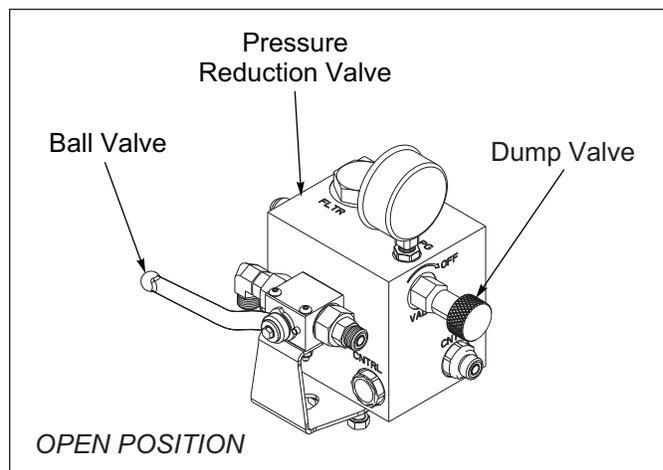

Figure 4-5: Pressure Reduction Valve Manifold
The Ball Valve between the Pressure Reduction Valve Manifold and the machine system needs to be turned "OFF" during field operation (handle upright). The Ball Valve should only be opened to 1.) check the system operating pressure present, and 2.) adjust the system pressure if it is too high or too low (below 2,000 psi). See Figure 4-5.
1. Connect the pressure and return hydraulic lines connected to the Pressure Reduction Valve Manifold, to the tractor. **See Figure 4-5.**